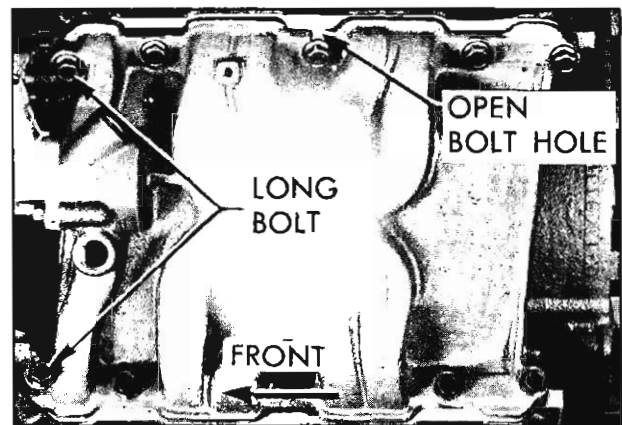

Fig. 3-115 Intake Manifold Installation
4. Install manifold attaching bolt in open bolt hole as shown in Fig. 3-115. Open bolt hole is held to close tolerances and the bolt in this location serves to locate the manifold fore-and-aft.